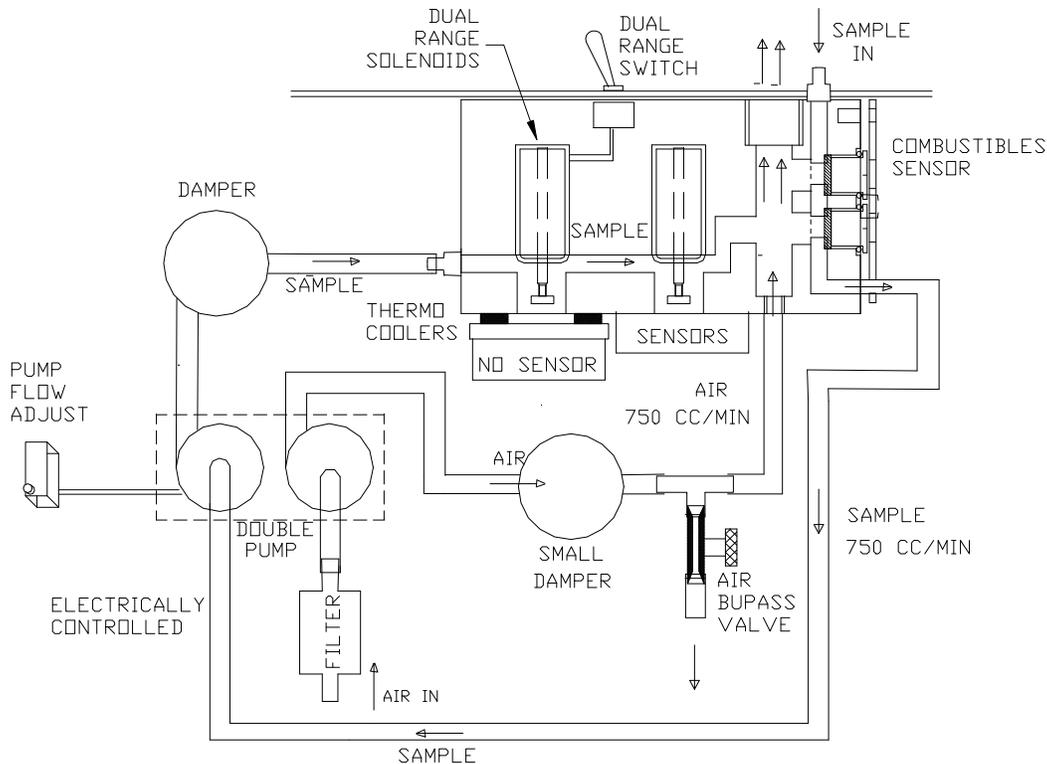

FIGURE 7
All gas sensors are located inside the instrument. They are mounted for convenience and easy access on a Teflon coated aluminum rectangular block, which is referred to as the "sensor housing" (see figure 7).
- b. **Gas sensing.** All gas sensors are located on the sensor housing. The sensor housing can be accessed by opening the hinged part of the face plate. The carbon monoxide, nitric oxide and sulfur dioxide sensors are designed to have two ranges. The sensor range is determined by the size of its capillary opening that admits a small portion of the sample gas. Each of these three sensors is equipped with two capillary openings of different size. Small solenoid pistons are located directly above the large capillary opening of each sensor. See figure 7. When the solenoid is in the upper position both capillary openings are exposed to the gas resulting in a sensor of high sensitivity (i.e. mid range). When the solenoid is in the lower position, it blocks the larger capillary opening resulting in a sensor of low sensitivity